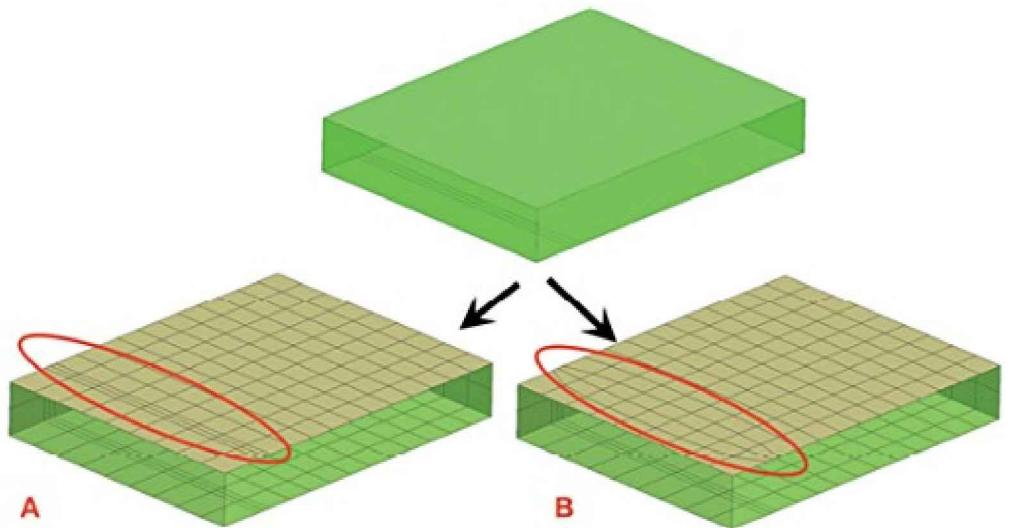

Figure 3.22. Smooth Nodes:
- Select *Smooth Nodes* to redistribute nodes within the internal region of the target face to achieve a more uniform mesh compared to the source face mesh. This option is effective if there are several source faces (Figure 3.22).